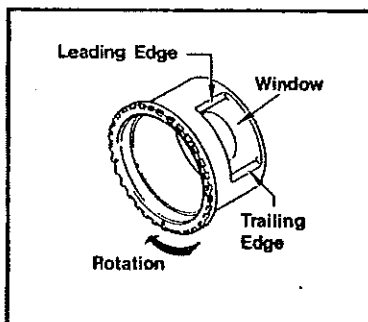

Figure 10.
- (4) Position of the control cage. The control cage and its proper positioning is the most critical factor in setting a correct blast pattern. Every control cage possesses a window (FIG.10) in
- (a) Determine the leading and trailing edge of control cage window. (FIG. 10).